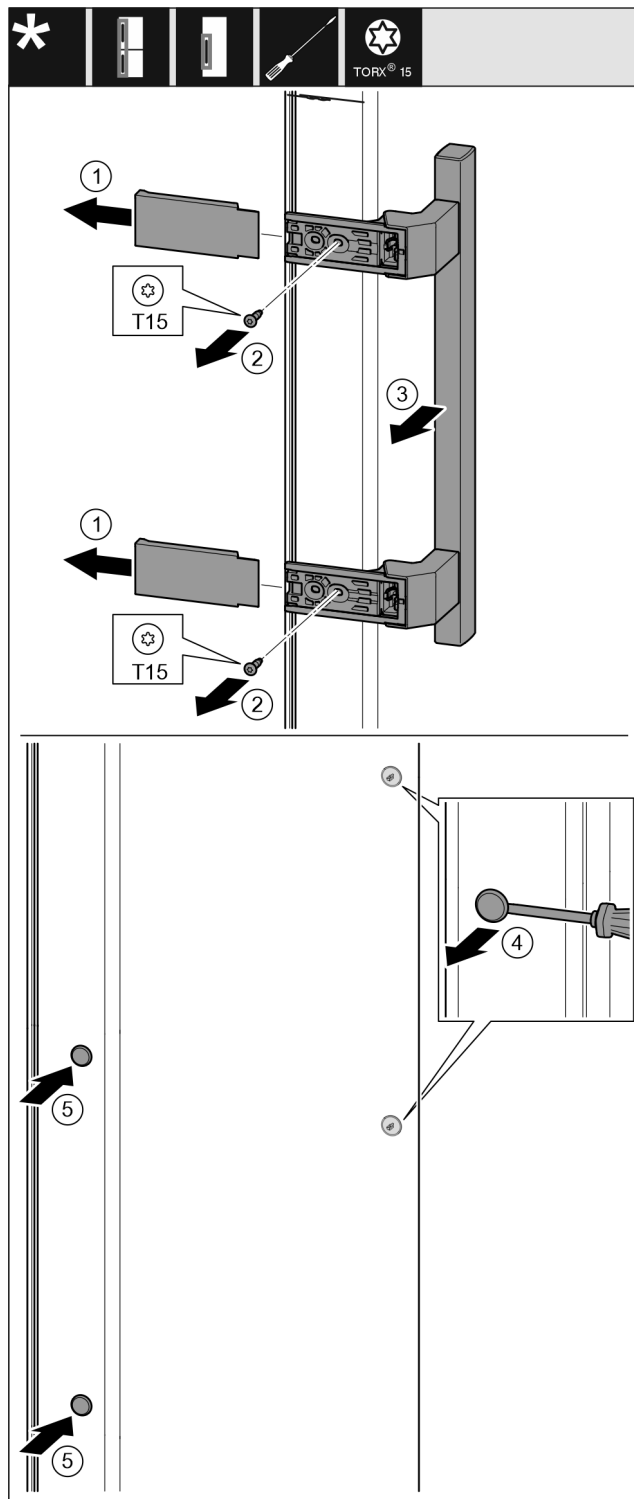

Fig. 19
- Pull off the cover. Fig. 19 (1)
- Remove the screws with a T15 screwdriver. Fig. 19 (2)
- Take off the handle. Fig. 19 (3)
- Carefully lift up the side plugs with a slotted screwdriver and pull them out. Fig. 19 (4)
- Insert the plugs again on the other side. Fig. 19 (5)